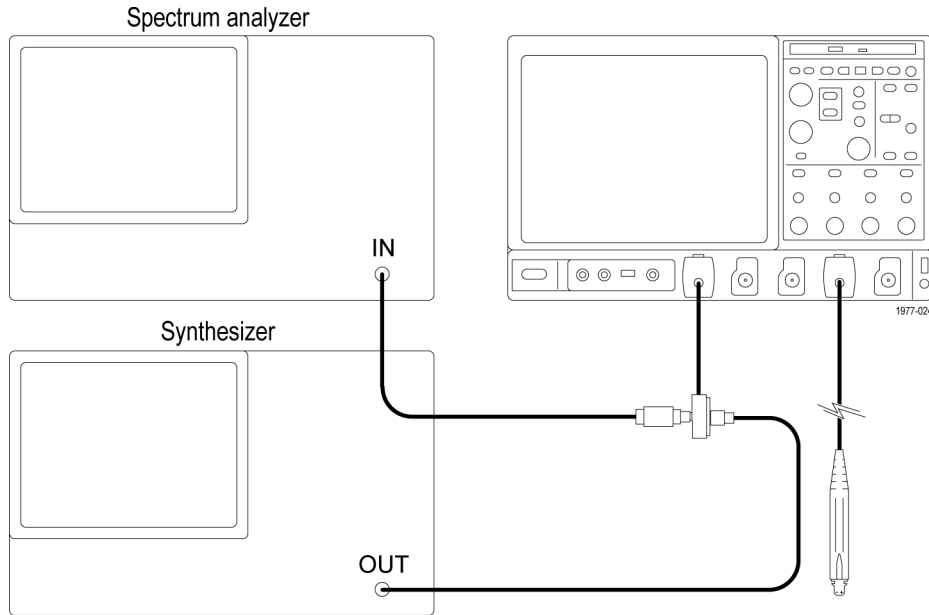

Figure 21: Alternate Bandwidth and CMRR test setup
1. Connect the equipment as shown. (See Figure 21 on page 36.) This setup is identical to the network analyzer setup in the main procedure, except that the synthesizer and spectrum analyzer replace the network analyzer. (See Figure 15 on page 22.)